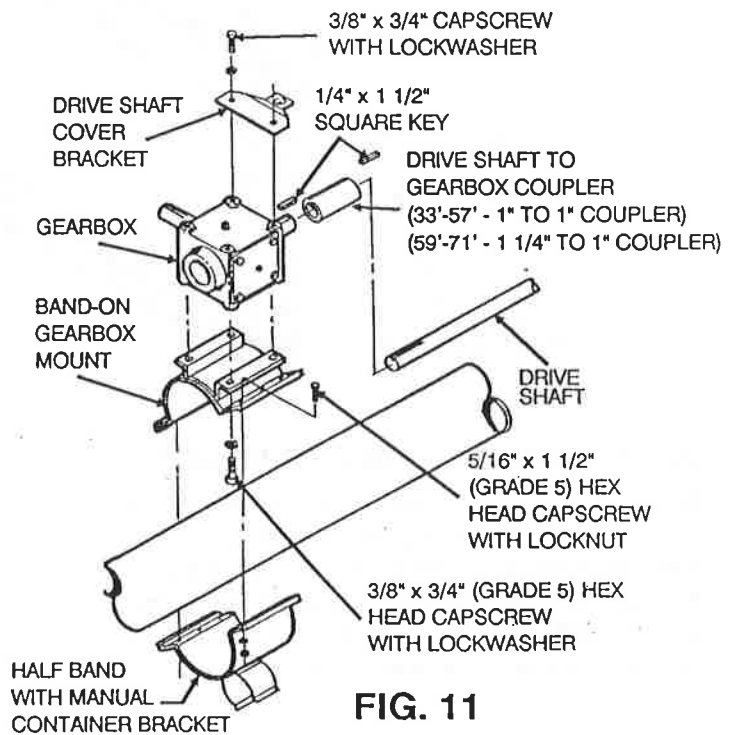

FIG. 11
Step 3. Set gearbox on auger and connect to drive shaft with coupler and two 1/4" x 1 1/2" long square keys. (See Fig. 11)